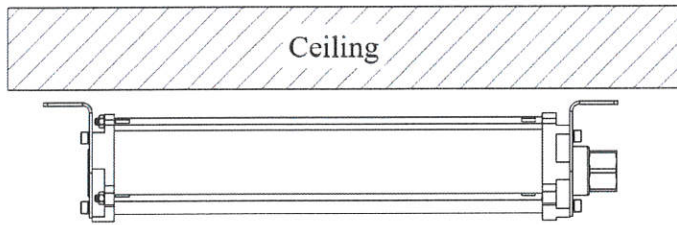

Figure 1
- The mount bracket is for the use of both ceiling mount (Figure 1) and wall mount (Figure 2).